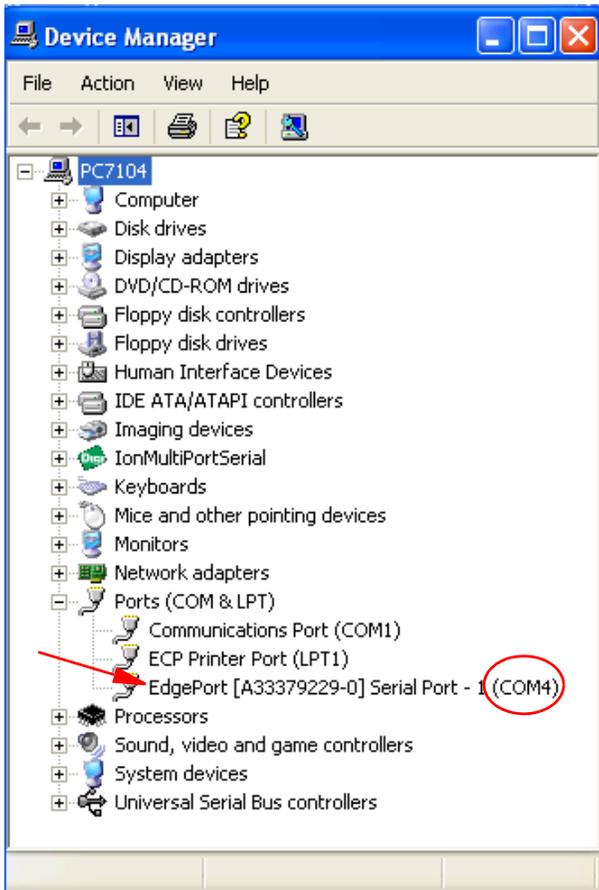

FIG. 7
- Ports (COM & LPT) expands and displays the name of the newly installed adapter including the COM port it is using. See FIG. 7.